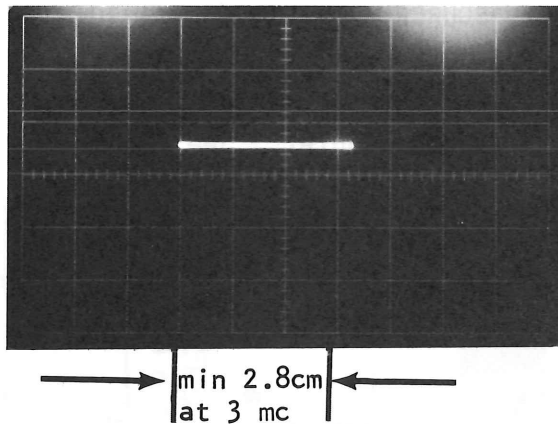

Figure 34
6. Check for at least 2.8 cm of horizontal deflection. See Figure 34.